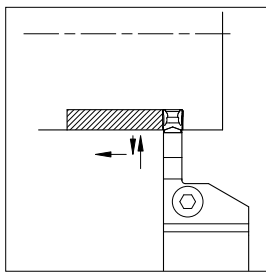

Fig.1
1. Grooving depth over 0.5 mm: For roughing - refer to fig. 1